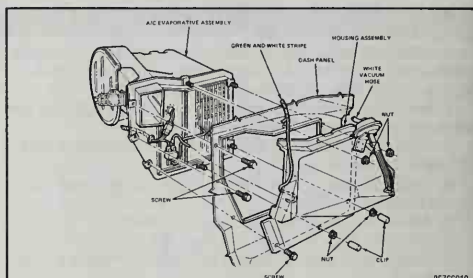

Fig. 21 Evaporator rear housing removal, 1978-79
• See Figures 21, 22, 23, 24 and 25